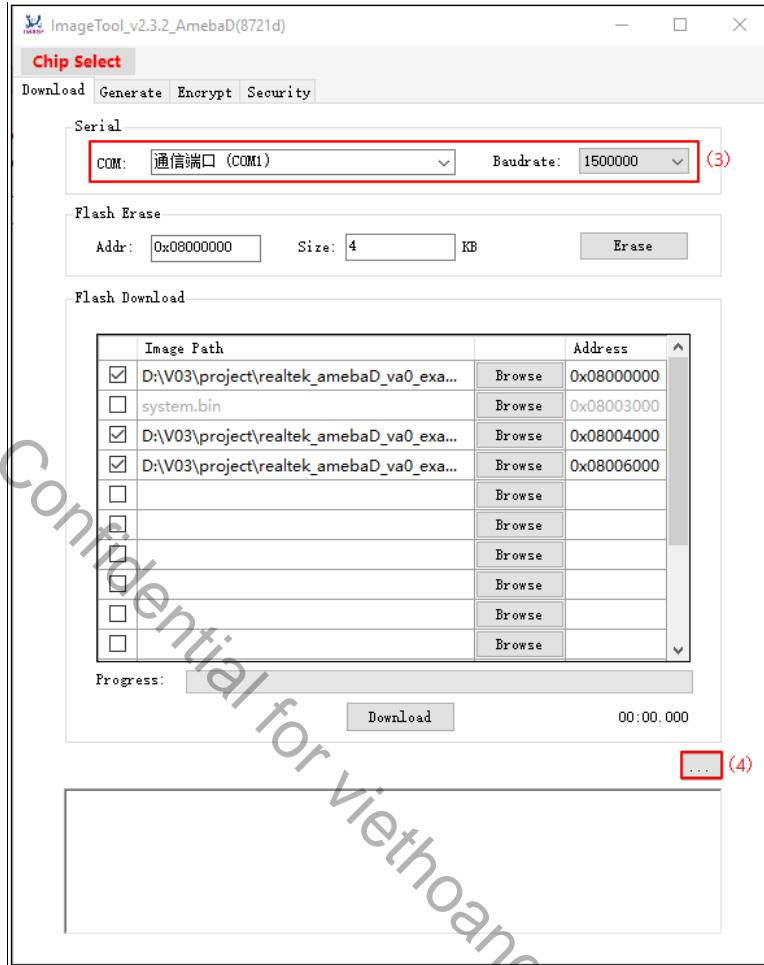

Fig 8-5 'Advanced Settings' window
- (1) Check the Read/Write Status Register Command and Sequence according to the Flash datasheet. Notice that different Flash IC would have different sequence.
- (2) Get Ameba into UART_DOWNLOAD mode as introduced in section 8.3.1.
- (3) Select the corresponding serial port and baud rate.
- (4) Click **Advanced Settings** button in Fig 8-5, and the **Advanced Settings** window shown in Fig 8-6 popups.